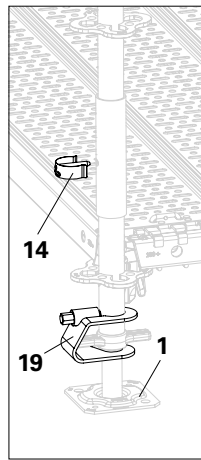

Fig. A1.12
Install Standards UVR with holes lined up so that the locking pins can be easily installed. (Fig. A1.12)
1. Secure Base Spindles UJB (**1**) with Spindle Locking UJS (**19**). (Fig. A1.12)
2. Tightly connect Base Standards UVB and Standards UVR using Locking Pins \varnothing 48/57 (**14**). (Fig. A1.12)